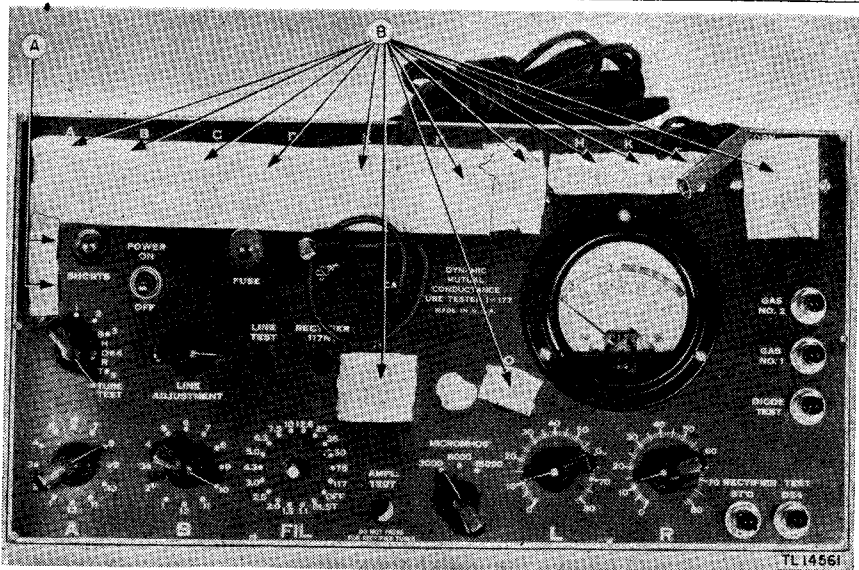

Figure 11. Tube Tester I-177, front view, masking for moistureproofing and fungiproofing.
- (l) Faces of noise test jacks, item A, figure 11.
- (m) Faces of all sockets mounted on front panel, item B, figure 11.
(3) PREPARATION. Thoroughly clean all equipment to be treated by removing all oil, dirt, rust, or fungus adhering to components.
(4) DRYING.
(5) VARNISHING.
(6) REASSEMBLY.